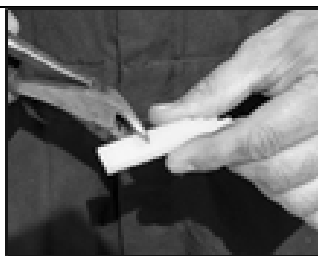

Fig. 1
Step 1. Trim referencing gauge to proper length, being sure not to cut the “stepped” portion. **(Fig.1)** Proper gauge length is determined by chamber size, type and maximum stroke at which brakes should be readjusted. **(See chart)**